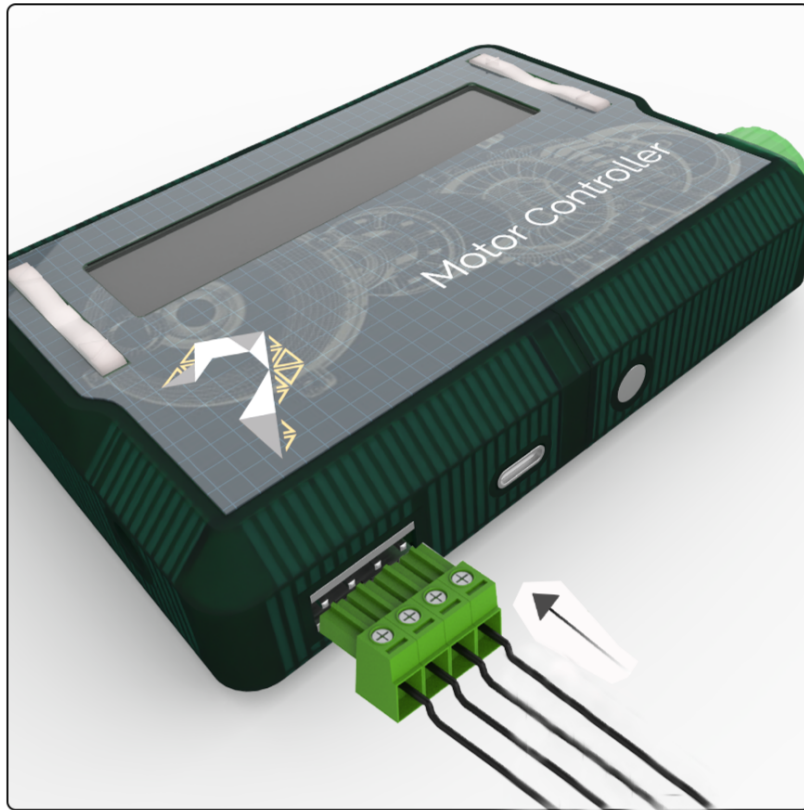

Figure 4.1: The motor is connected to the SMC by plugging the screw terminal block connector in the motor terminal block on SMC.
- vi) The screw terminal block is plugged in the motor terminal block of the SMC, as shown in Figure 4.1.